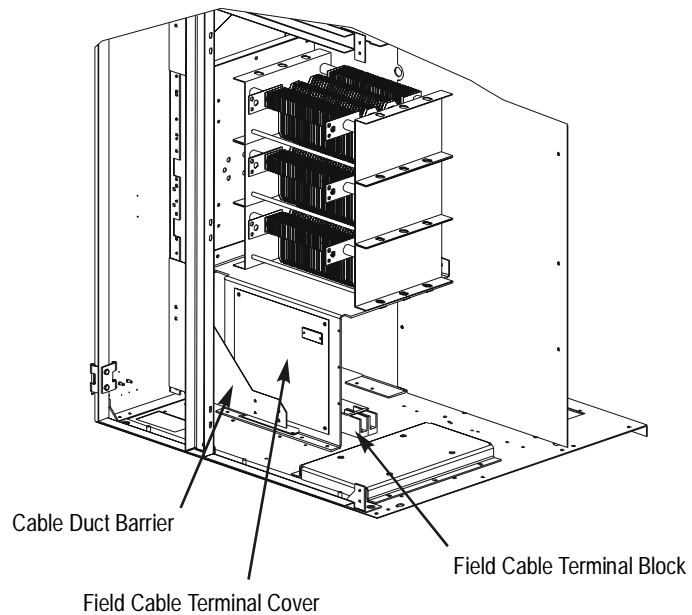

Figure 2.2 – Access to Field Cable Terminal Block (Cutaway view - Power cell doors and side panel not shown)
- 5) Remove the cable duct barrier and the field terminal cover from the lower power cell (see Figure 2.2).
- 7) Route the field cable (DC) into the cabinet through conduit D. Route the cables behind the current transformer mounting plate and into the lower power cell. You will need approximately 3 meters (10 feet) of cable.
- 8) Pull the cables into the lower power cell and route them behind the mounting plate to the floor of the cabinet. (See Figure 2.2)
- 9) Connect the cables to the field cable terminal block on the floor of the cabinet (see Figure 2.2). Connect the positive power cable to terminal F1 of the field cable terminal block. Connect the negative power cable to terminal F2. Torque the screws to 35-50 lb-in.(4.0-5.6 Nm).
- 3) Remove the cable duct barrier and the field cable terminal cover from the lower power cell (see Figure 2.2).
- 5) Route the field cables (DC) into the right of the cabinet. You will need approximately 1 meter (3 feet) of cable.
- 6) Connect the cables to the field cable terminal block on the floor of the cabinet (see Figure 2.2). Connect the positive power cable to terminal F1 of the terminal block on the floor of the cabinet. Connect the negative power cable to terminal F2. Torque the screws to 35-50 lb-in. (4.0-5.6 Nm).